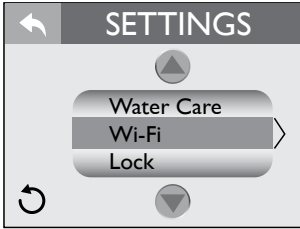

Figure 12.7a
From the Settings Menu, tap ▲ or ▼ to highlight the “Wi-Fi” Menu tab in Orange. Tap  to enter the programming options, Figures 12.7a and 12.7b. Make sure you have downloaded the Wi-Fi App for this setup.
1. From the “Settings” menu, tap  (Figure 12.7a) to enter the menu.